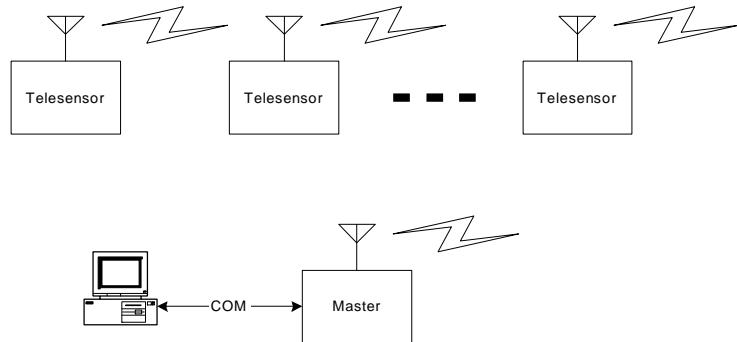

Figure 1 Typical System
The Model 0229HP Radio is a low power, 2.4GHz Direct Sequence Spread Spectrum (DSSS) telemetry transceiver (or Telesensor) intended for monitoring of industrial battery systems. Intended operating frequencies are in the unlicensed Industrial Scientific and Medical (ISM) band. A Telesensor consists of a highly integrated RF ASIC and mixed signal System on a Chip (SOC) microcontroller. A typical installation consists of several Telesensors controlled by a single master or WAN gateway product as shown in Figure 1. In its simplest form one telesensor assumes the role of the master and is connected into a Personal Computer (PC) or similar monitoring device.